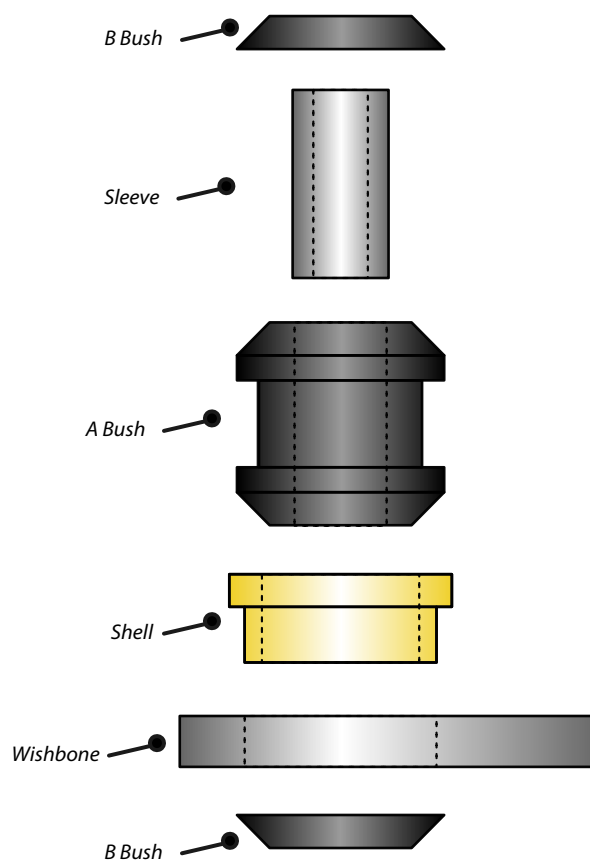

Figure 1
3. Press the Zinc-Plated Mild Steel Outer Shell into place in the wishbone, with the flange towards to the top of the wishbone. (Figure 1)
4. Press the polyurethane bush into the outer shell from the top. Washing up liquid can be used to help lubricate this process. (Figure 1)
6. Push the sleeve into the bush, so that it sits with an equal amount of sleeve protruding from each side of the bush. (Figure 1)